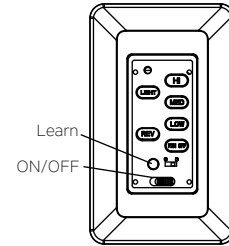

Fig. 24
Step 1. After installation is complete, press the LEARN button for 3 seconds within 30 seconds of AC power is turned on. Fan will turn on at medium speed and light (if installed) will turn on. This confirms that the SMART SYNC setting is active and ok. (Fig. 24)
Restore power to ceiling fan and test for proper operation (Fig. 24)